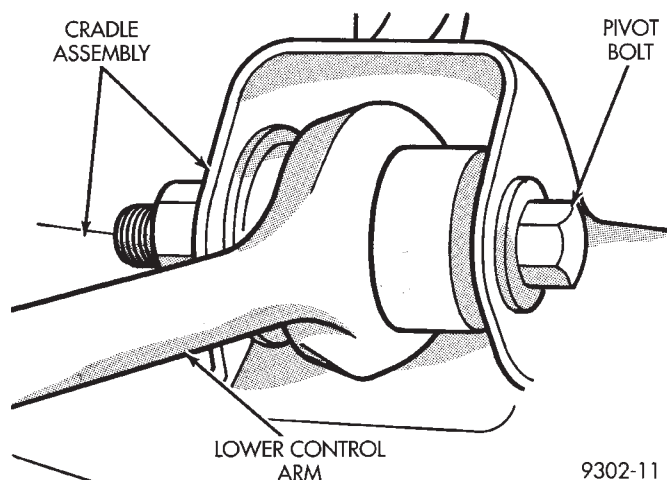

Fig. 23 Lower Control Arm Pivot Bolt
- (5) Lower vehicle so the suspension is supporting vehicle's weight (control arm at design height). Torque the lower control arm pivot bushing to cradle bracket attaching bolt (Fig. 23) to 123 N•m (90 ft. lbs.).